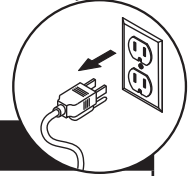

Figure 46. Location of spring cover lock slot.
- Pull cover outward just enough to disengage spring cover lock slot from locking lug (see **Figure 46**).